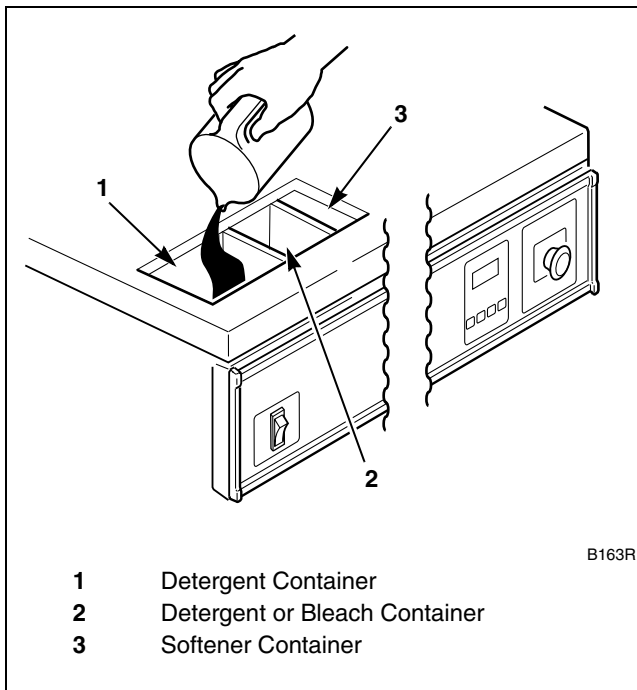

Figure 12
7. Add liquid and/or powder supplies to supply dispenser. Refer to *Figure 12*.